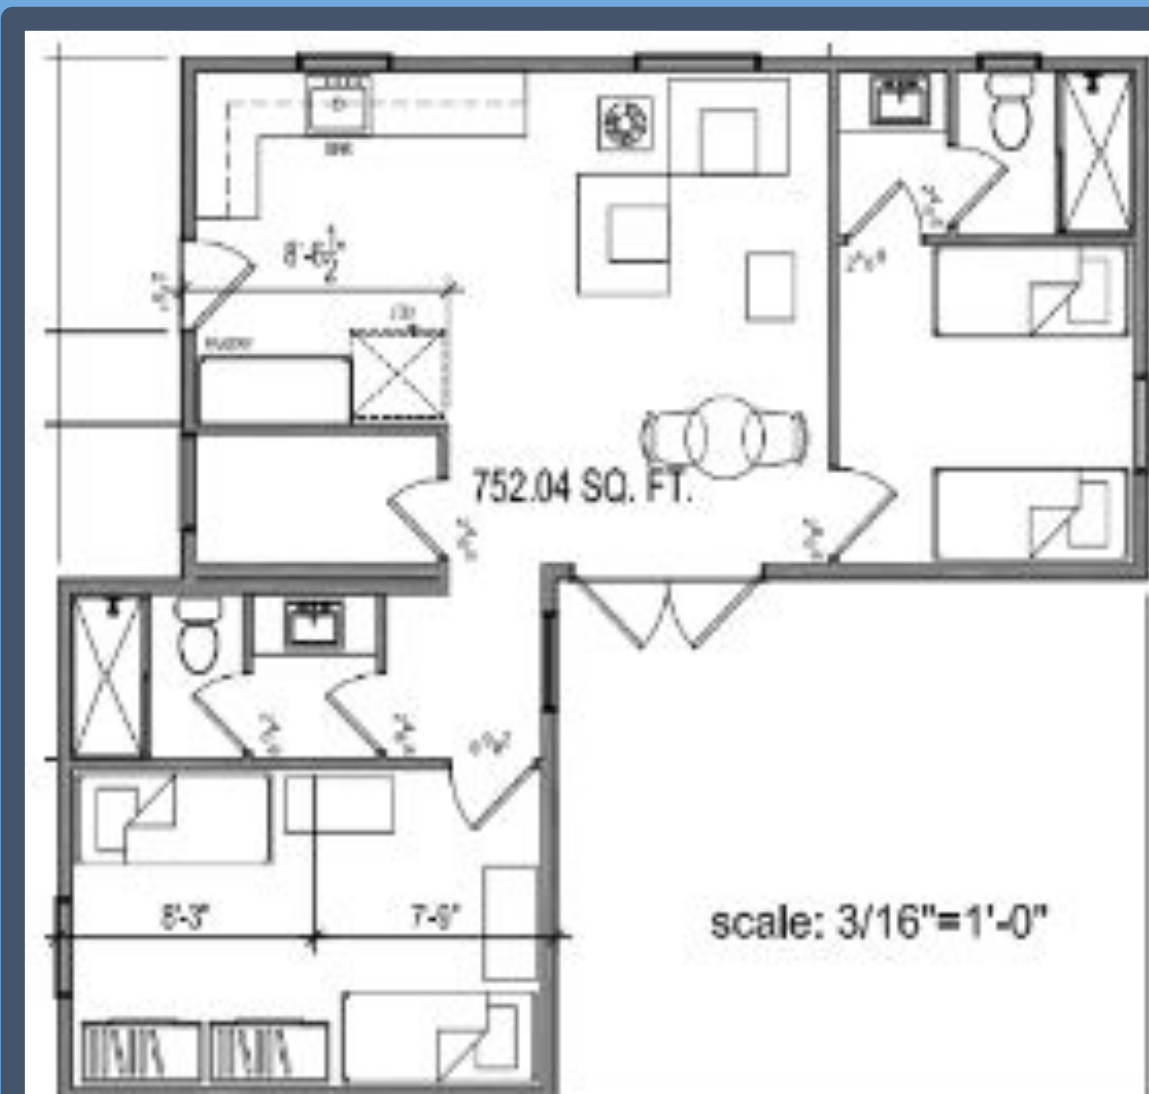

Figure 2 - ADU Floor Plan
- ❖ 2 bedrooms, 2 bathrooms (see **Figure 2**)